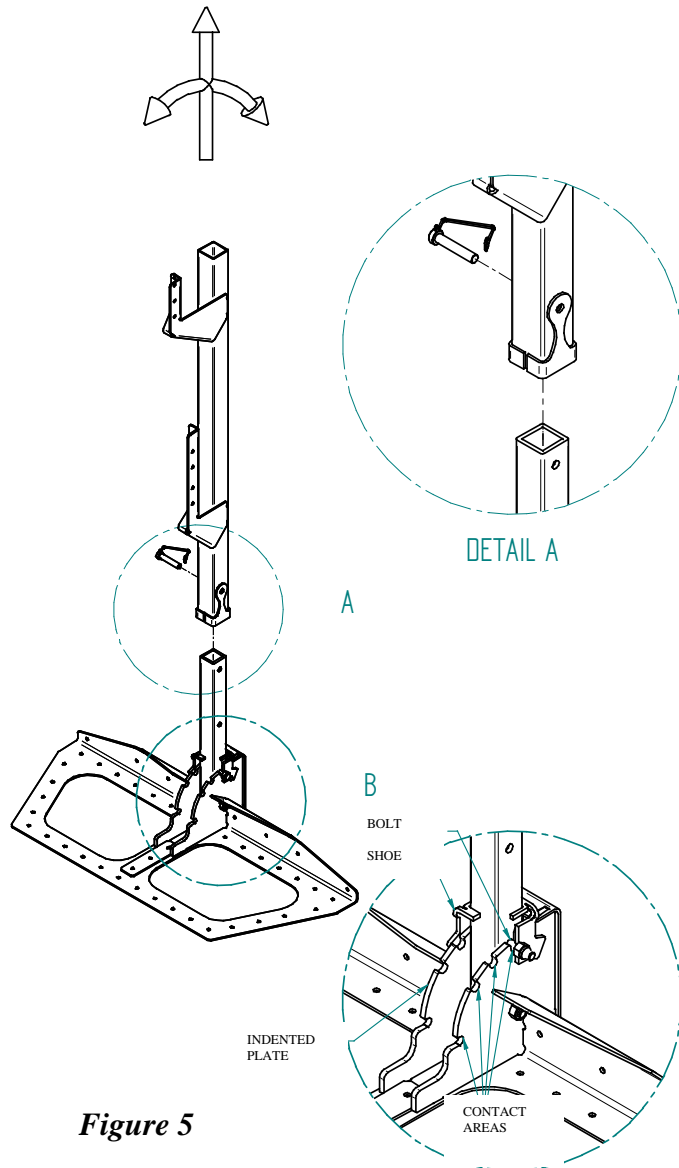

Figure 5
- b. To position the upright as needed, pull it up along the tube's axis to disengage the attaching mechanism. Pivot the upright to the desired angle and release the tube. Ensure that the locking mechanism is engaged. Make sure that the mechanism of restraint is perfectly engaged and that nothing interferes between the bolt, the shoe and the indented plates. The contact areas (surfaces) must be respected to assure an adequate use. *(See figure 5)*